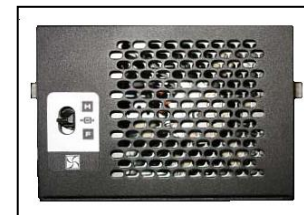

Figure 3.3.5
3.3.17 CAB HEATER – Figure 3.3.5